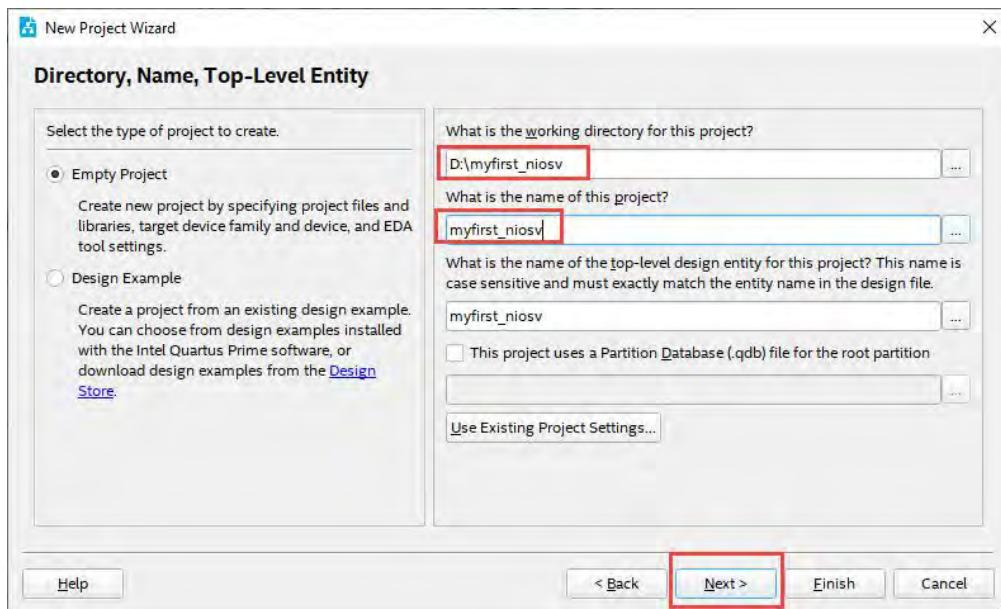

Figure 2-2 Input the working directory, the name of project, top-level design entity
2. Choose a working directory for this project, type project name and top-level entity name as shown in Figure 2-2. Click **Next** to next window.